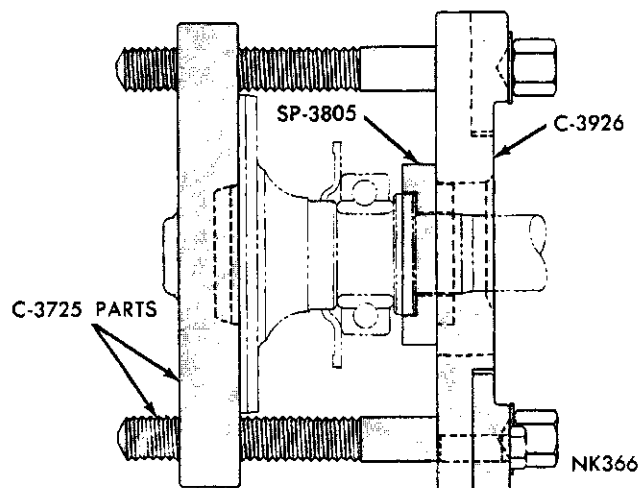

Fig. 6—Installing Rear Axle Shaft Bearing
(1) Install axle shaft retainer plate, bearing, and bearing retainer collar on axle shaft. The axle shaft bearing and bearing retainer collar must fit tightly on bearing journal of axle shaft. Using tool C-3725 and C-3926 press them into place by tightening bolts in tool alternately (Fig. 6) Models equipped with 7-1/4 inch axle, install bearings and retainer collars using Tool C-3971 and adapter C-4000.